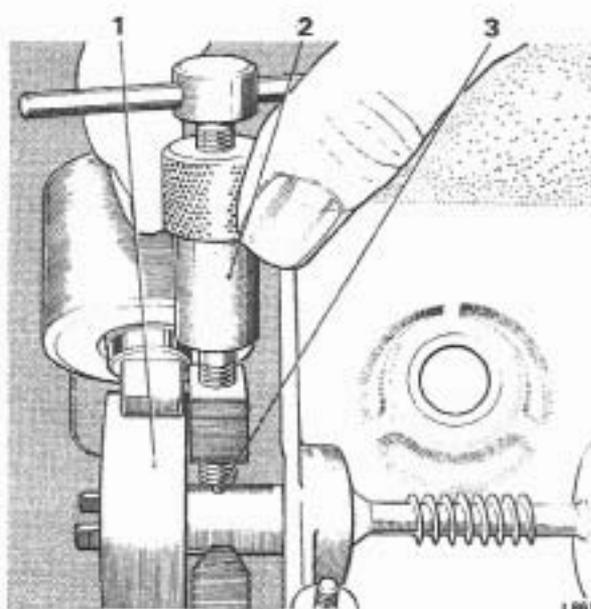

FIG. T150 FITTING THE BRAKE DRUM ROLL PIN (EARLY CARS)
20. Fit a new roll pin to the shaft and drum, using tool (RH 7841) as shown in Figure T150.